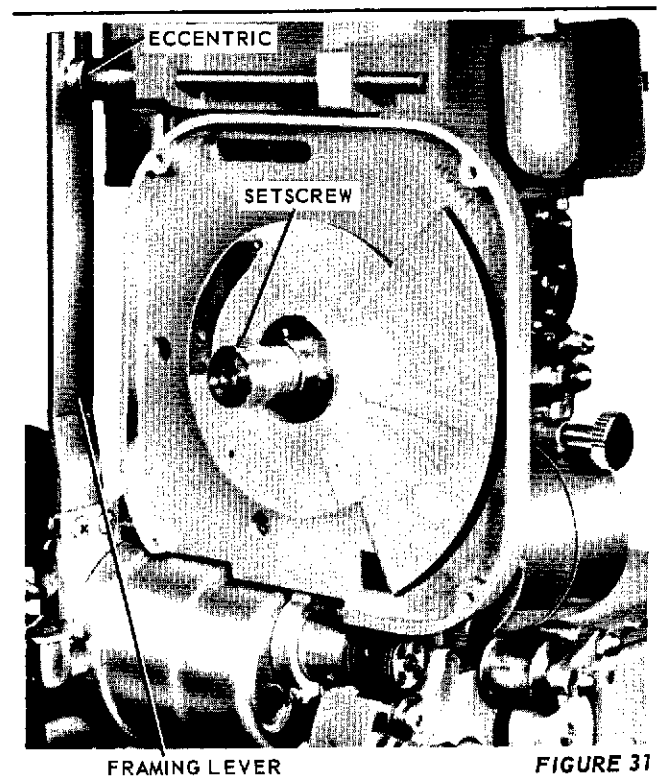

FIGURE 31
n. Pass the sprocket end of the intermittent through the forward trunnion. Be very careful not to damage the teeth of the intermittent sprocket. Engage the framing ECCENTRIC, figure 31, in the slot of the FRAMING LEVER and push the intermittent forward until the registering surface is in contact with the front trunnion.
a. Place the shutter on the shaft as shown in figure 31. Slide it well on, but be sure there is adequate clearance between the shutter and the casting.